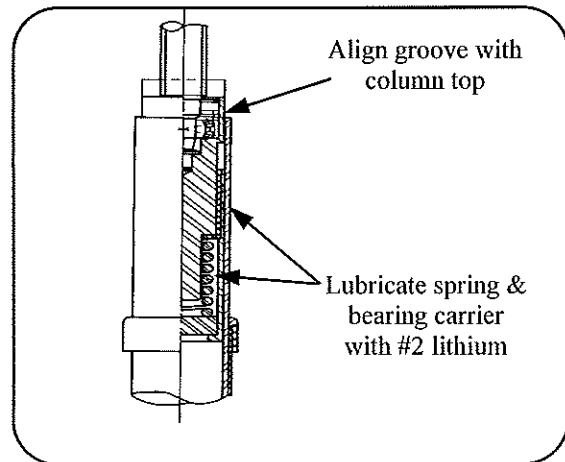

Figure 19
4. Lubricate the spring housing and spring with #2 lithium chassis grease and place housing and spring unit into top of column (*Figure 19*).
6. Tighten the rotating column bearing bolt until the groove in the bearing housing is flush with the top of the rotating column tube (*Figure 19*).